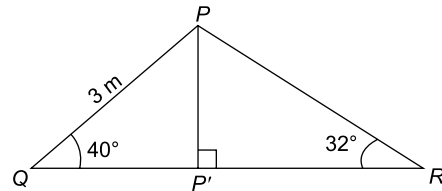

Figure RT1.5
6. Figure RT1.5 shows a roof truss PQR with rafter $PQ = 3$ m. Calculate the length of (a) the roof rise PP' (b) rafter PR , and (c) the roof span QR . Find also (d) the cross-sectional area of the roof truss